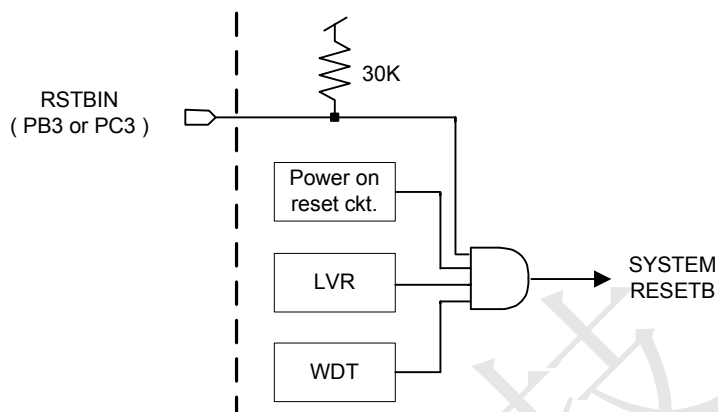

Figure 10.1 Reset system block diagram
TRSF1604A(C) reset is come from four signals which are power on reset, low voltage reset(LVR), external IO PB3 or PC3 pin (by option) and WDT overflow reset, as shown in Figure 10.1. A dedicated external resetb input pin (by option) is provided to reset this chip, which has 30K ohm pull up resistor. The operation frequency of MCU will go back to BANK0 mode when reset occurred.